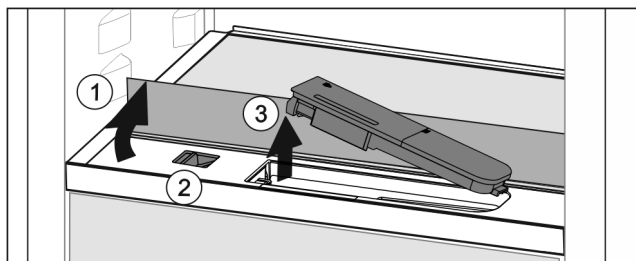

Fig. 121
- Lift the glass panel and fold towards the rear until it clicks into place Fig. 121 (1).
- Slide the slider Fig. 121 (2) to the left.
- Remove the water tank Fig. 121 (3).